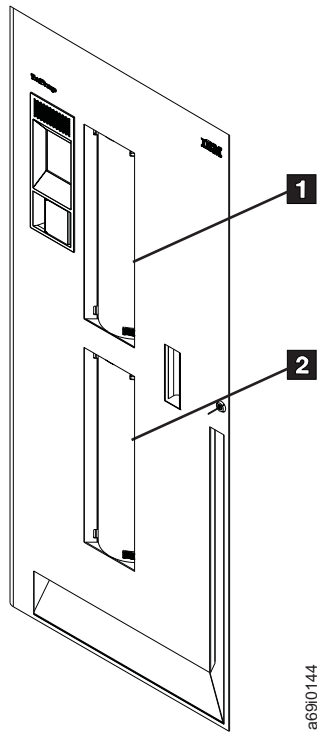

Figure 15. Storage slot addresses in the I/O stations of the TS3500 Tape Library. The door of a Model L22 or L52 frame is shown.
- An I/O slot address of F01,R05 means frame 1, slot 5 (fifth row from the top of the upper I/O station; see **1** in Figure 15 on page 46).